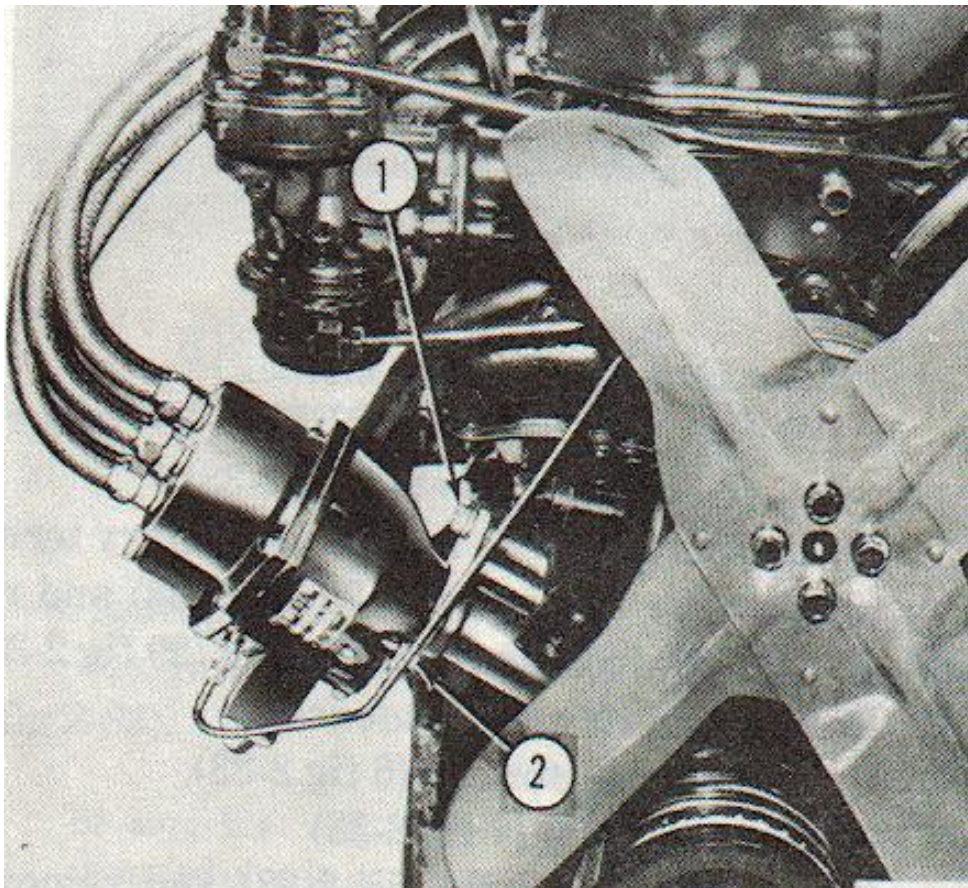

Figure 2-31. ignitor adjusting nut.
- (1) Loosen ignitor adjusting nut (2 fig 2-31).
- (2) Install timing light adapter on number 1 spark plug and connect spark plug cable to adapter.
- (3) Connect timing light leads in accordance with timing light manufacturer's recommendation.
- (8) When timing is adjusted to 5 degrees BTC advance, tighten ignitor adjusting nut. Refer to figure 2-31.
(9) Recheck timing to insure that it was not disturbed when nut was tightened.
(10) While observing timing line with timing light, increase engine speed. Timing line should appear to move in advance direction indicating proper operation of centrifugal advance mechanism.